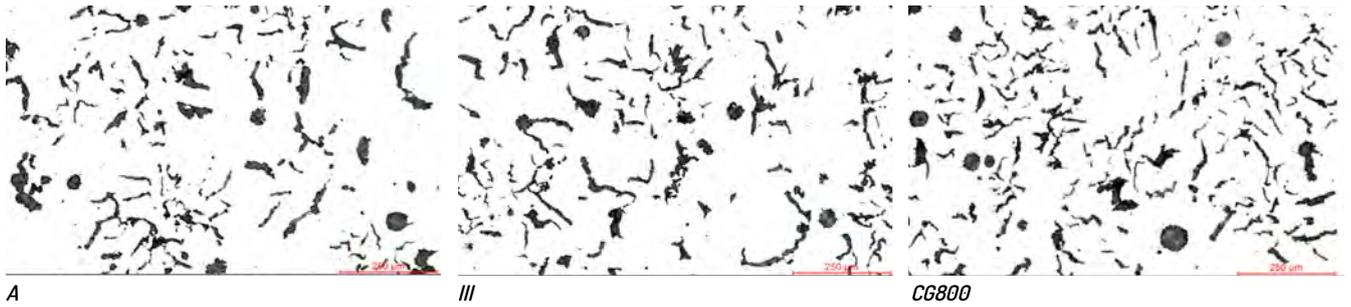

Figure 9. Bulk microstructure from the X-section of three selected casting.
The results were judged based on the performance of the coatings in reducing the layer of compacted graphite (CG) degeneration to lamellar graphite (LG) at the rim zone of the castings. This performance is evaluated from the microstructures of the castings from various selected trials to compare the performance of ACTICOTE CG800 (CG800) and other commercial coatings used for the same application. The results will be presented according to the content sequence in Table 3. However, the bulk microstructure from selected castings are presented in *Figure 9*. It can be seen that the bulk microstructure exhibited typical compacted graphite structure.